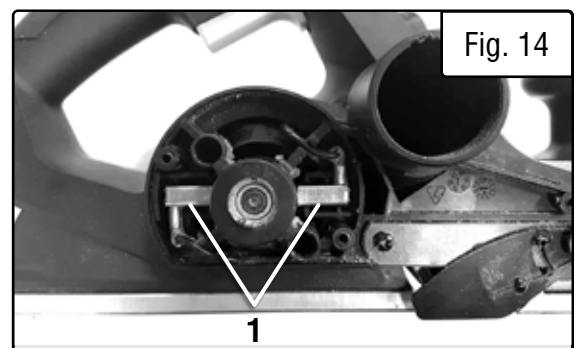

Fig. 14
2. Carefully take out the two carbon brushes (Fig. 14 - 1) using pliers and replace with new brushes.